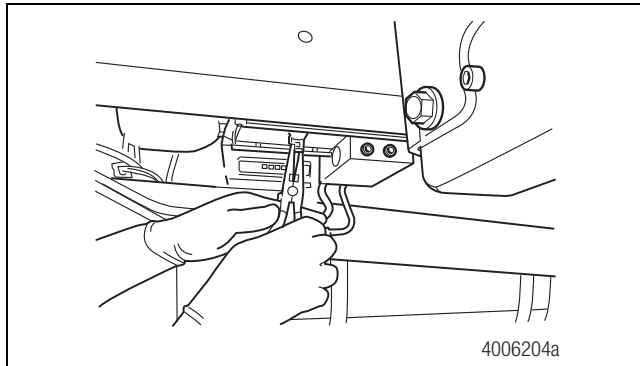

Figure 3
11. Use needle nose pliers with a good grip to remove the pump from the bore. Use care to prevent damage to the O-rings. Avoid sliding the needle nose pliers on the pump. This can produce metal filings or contaminants which can enter the pump bore. Do not leave any foreign material in the pump bore. Figure 3.